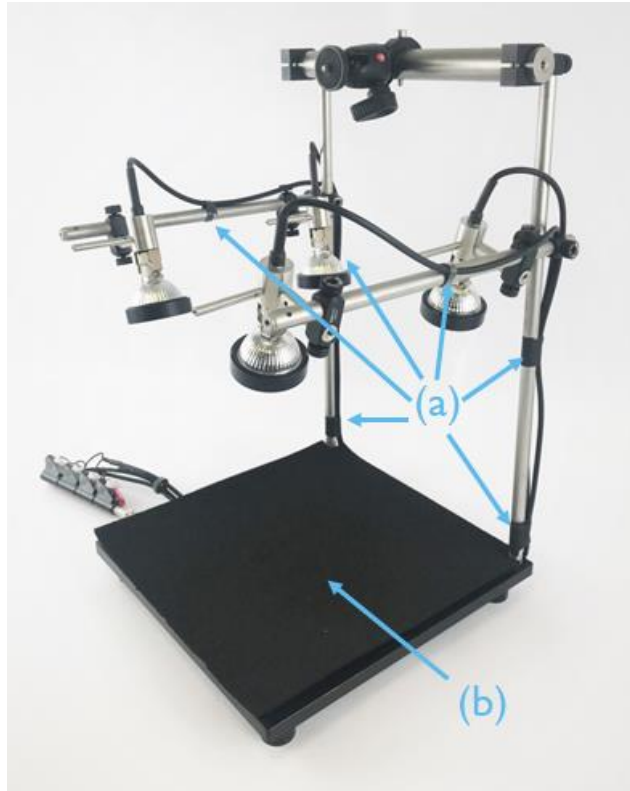

Figure 17. Tying up the loose wires to the mounting posts (Step 4.6)
Step 4.6 Tie up the loose wires to the post (Figure 17)
- a. We recommend users to tie up the loose wires to the mounting posts (as indicated in Figure 17).